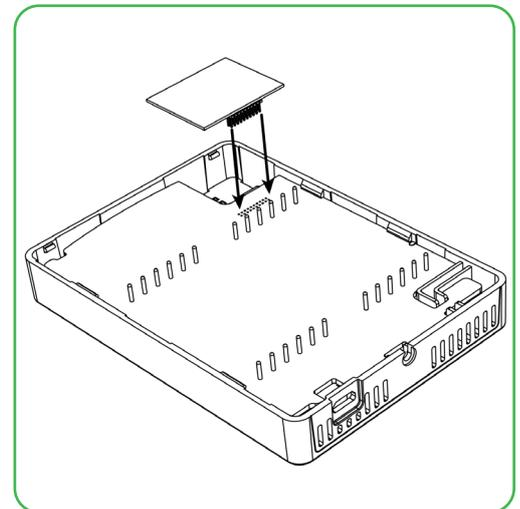

Figure 2
4. Locate the gap in the upper-right corner of the Room Controller's motherboard, as well as the holes indicating where to insert the Zigbee Pro module into the motherboard (Figure 2).